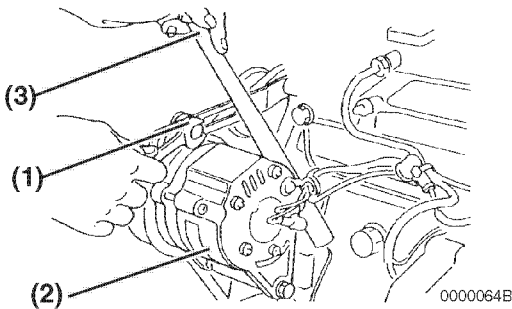

Figure 5-5
2. If necessary, adjust the V-belt tension. Loosen the adjusting bolt (**Figure 5-5, (1)**) and move the alternator (**Figure 5-5, (2)**) with a pry bar (**Figure 5-5, (3)**) to tighten the V-belt to the desired tension. Then tighten the adjusting bolt.